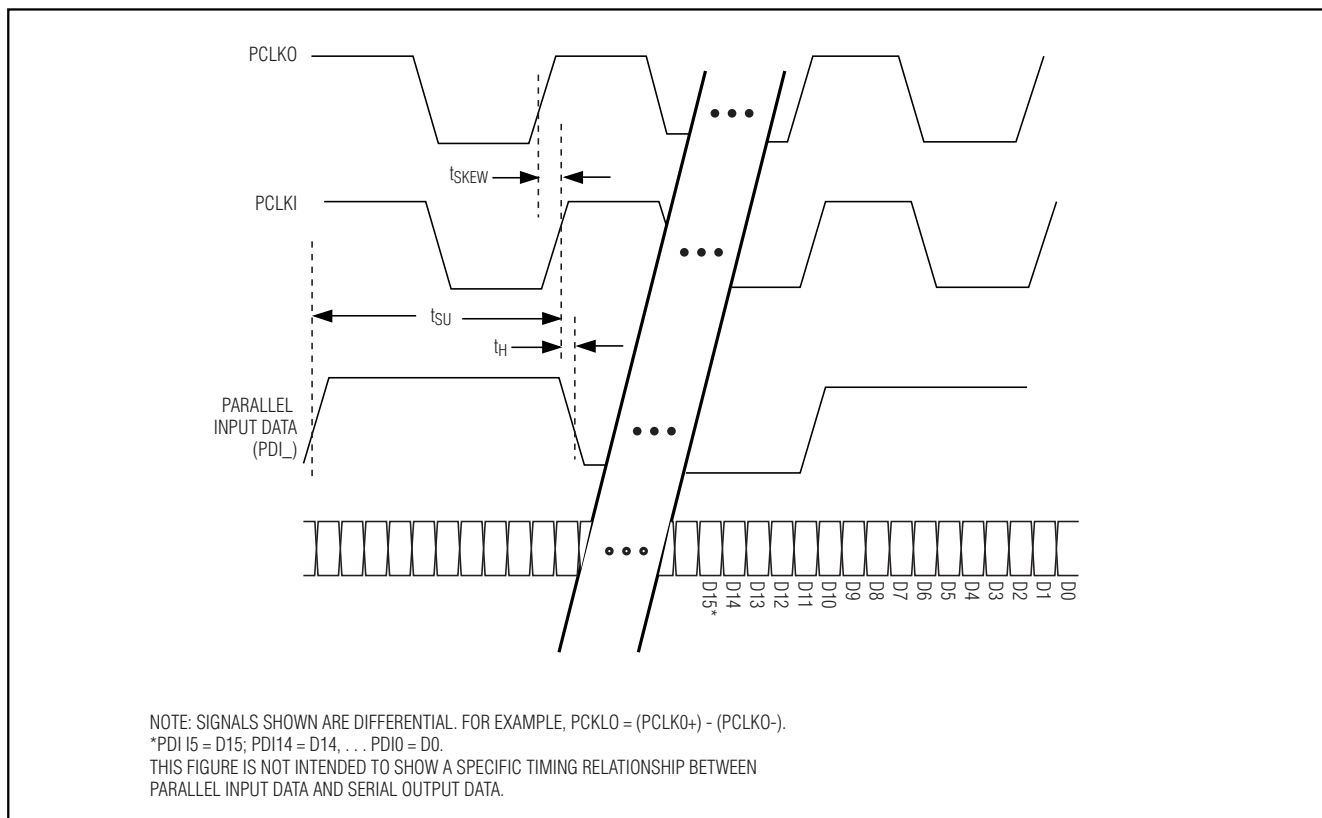

Figure 1. Timing Diagram
| PCLKO to PCLKI Skew   | t SKEW               | Figure 1                          | 0   |        | +4.0 | ns    |
**Note 2:** Setup and hold times are relative to the rising edge of PCLKI+, measured by applying a 155.52MHz differential parallel clock with rise/fall time = 1ns (20% to 80%). See Figure 1.
defined with respect to the parallel clock-output signal (PCLKO). PCLKO is the synthesized 2.488Gbps internal serial-clock signal divided by 16. The allowable PCLKO to PCLKI skew is 0ns to 4ns. This defines a timing window after the PCLKO rising edge, during which a PCLKI rising edge may occur (Figure 1).